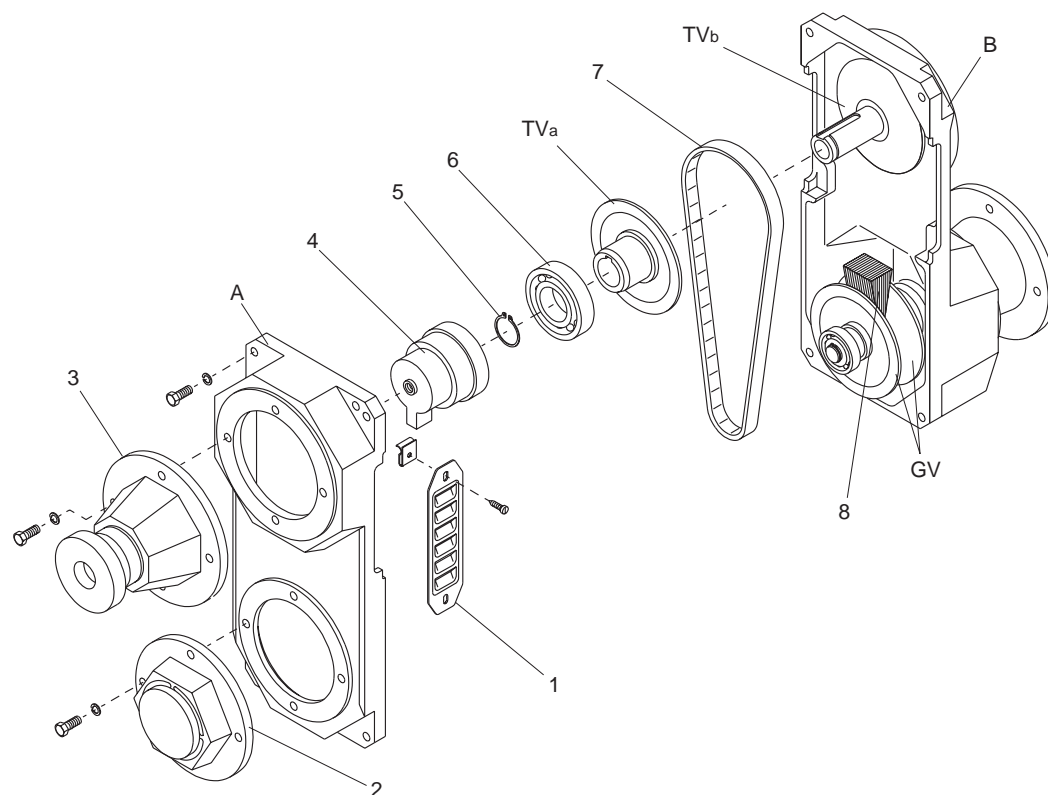

Figure 17: Replacing wide V-belt for VU 01-51 and VZ 01-41
**Replacing wide V-belt for VU 01-51 and VZ 01-41 (Figure 17)**
3. Remove both lateral ventilation plates (1).
4. Remove bearing cover (2) and adjustment unit (3).
6. Secure driven spring-opposed adjustment disc GV with wood wedge (8).